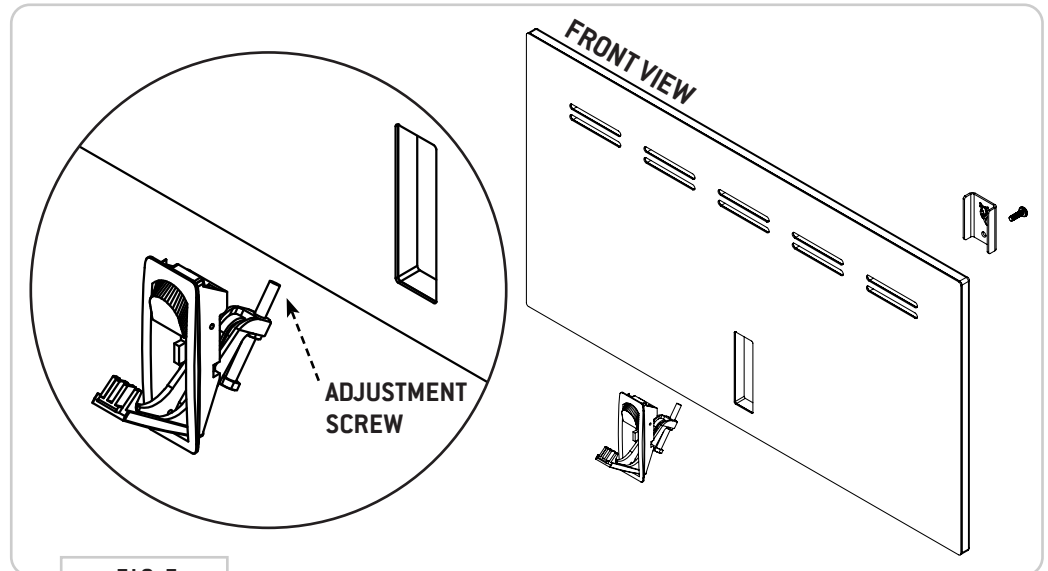

FIG 7
3.1 Install the **Cabinet Latch** to the **Cabinet Door** in the orientation as shown in **FIG 7**. Start with clearing the end of the latch that houses the adjustment screw through the front slot and it should seat neatly into place.